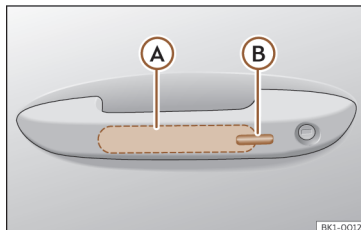

Fig. 75 Door handle: sensor surfaces.
>>> **Fig. 75**
- Touch the sensor surface Ⓑ >>> **Fig. 75** on the outside of the door handle. All turn signals flash once.
- Within 5 seconds, touch the sensor on the outside of the door handle once >>> **Fig. 75** . Do not grip the handle while doing so. This temporarily deactivates the Keyless Access system.